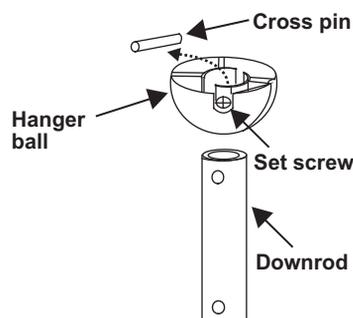

Figure 3
4. Remove hanger ball from down rod assembly by loosening set screws, remove the cross pin and sliding ball off rod. (Fig. 3)